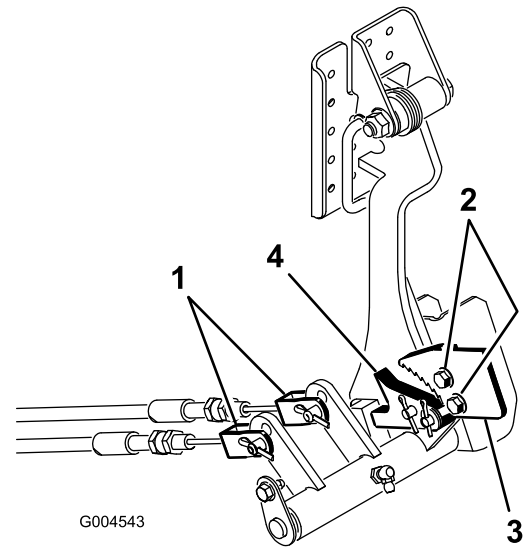

Figure 74
1. Remove the cotter pins and clevis pins securing the brake cables to the brake pedal rod (Figure 74).
2. Loosen the 2 screws securing the parking brake pawl to the frame (Figure 74).
3. Press the parking brake pedal forward until the brake detent completely engages on the brake pawl (Figure 74).